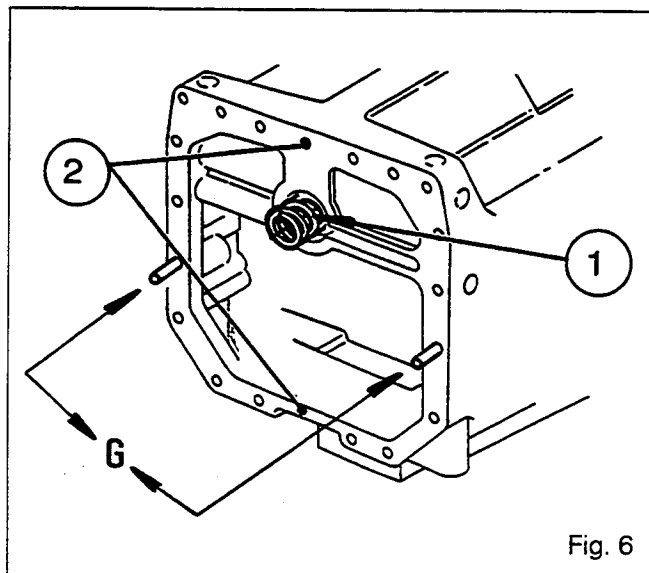

Fig. 6
24. Check that the spring (1) is in place in the power take-off clutch and that the locating pins (2) are fitted (Fig. 6).
27. Screw the two guide studs «G» on the housing (Fig. 6).